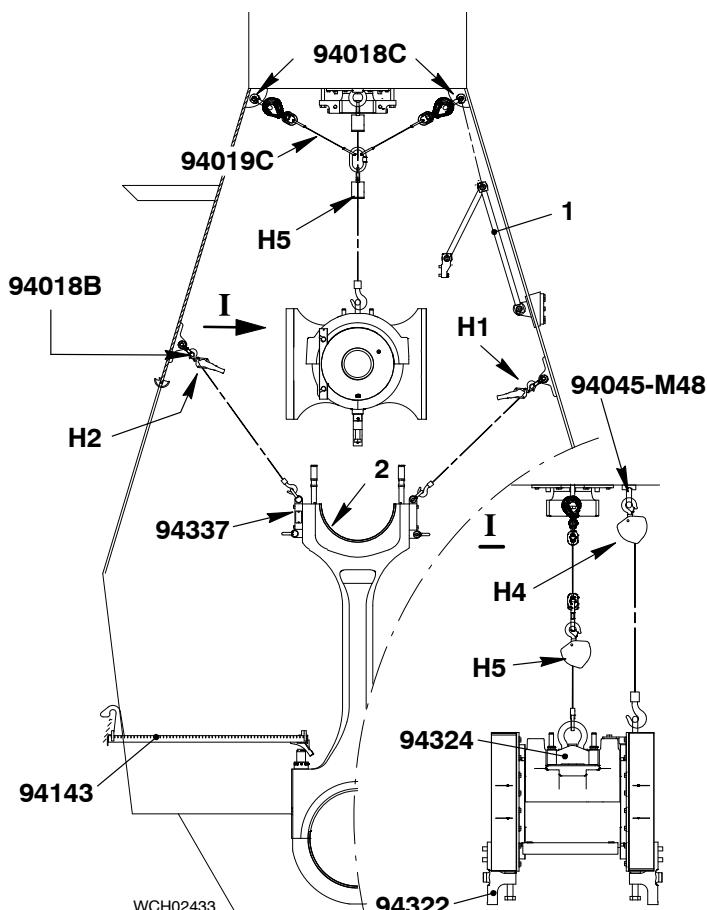

Fig. 4
- 13) Disconnect the toggle lever (1, Fig. 4) from the connecting rod.
- 8) Keep the tension on the chain block (H4, Fig. 4).
- 15) Remove the platform (94143, Fig. 4).